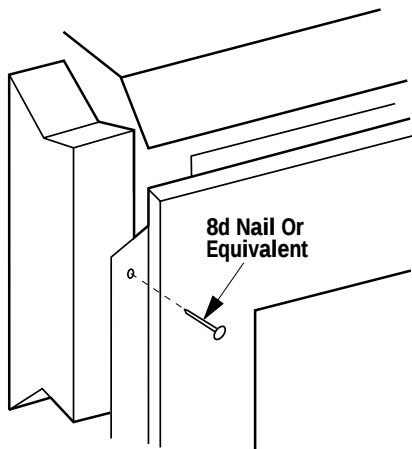

Figure 17
Step 4. Fireplace should be secured to side framing members using the full length nailing tabs at the top and bottom of the fireplace front face. Use 8d nails or equivalent (**Figure 17**).